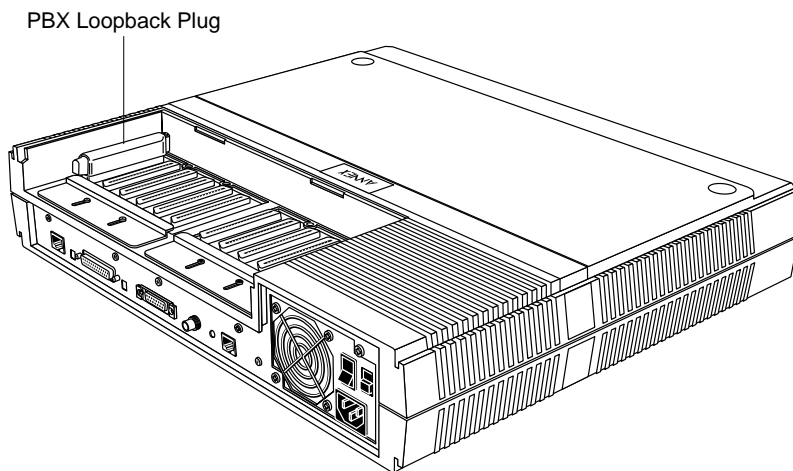

Figure C-12. Attaching a PBX Loopback Plug to the PBX Connectors
- 4 Attach a PBX loopback plug to the PBX connectors for the new ports (see Figure C-12).